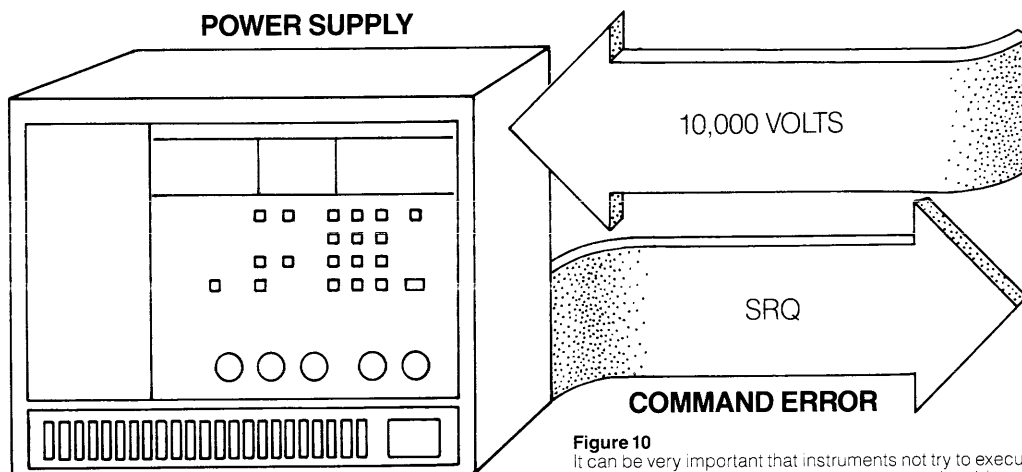

Figure 10
The Service Request (SR) function and corresponding status byte reporting are very important. They can alert the controller of programmable instruments to new events or possible malfunctions (Figure 10). Thus, they let the computer controlling an unattended instrument system manage the system effectively or call for help when it can't. Sometimes, however, a person or a computer does not want to be interrupted—for example, when a sensitive or time-dependent measurement is being made. For these cases a message, RQS OFF, can be sent to disable any service requests. To turn the service request capability back on, the message RQS ON is sent.